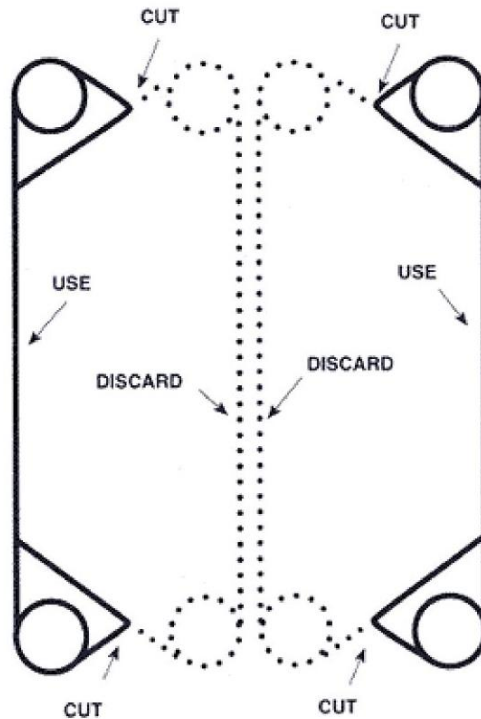

Figure 8-16. Cutting Gaskets For End Plate
2. Cut the gaskets as indicated in Figure 8-16, below.